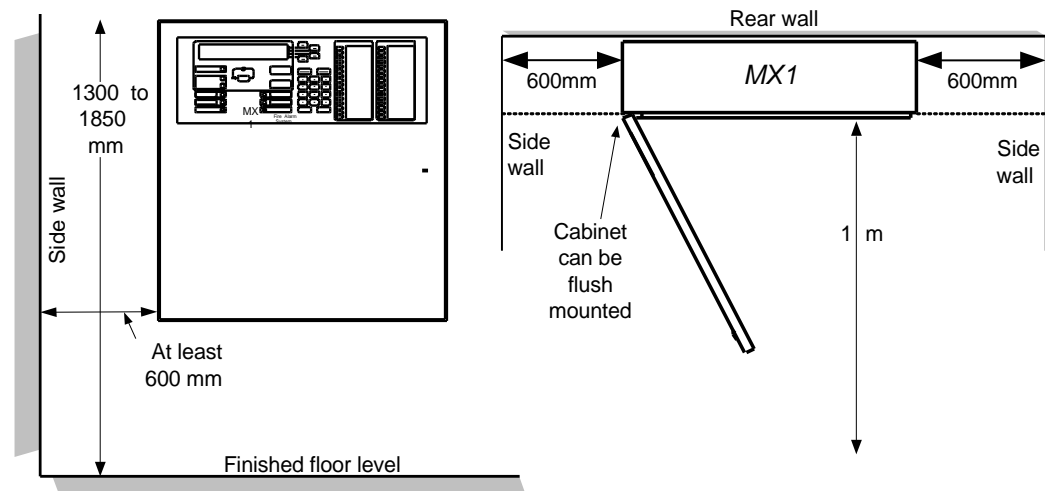

Figure 11-1 – Recommended clearances
- Allow the LCD to be at typical eye level (see Figure 11-1).